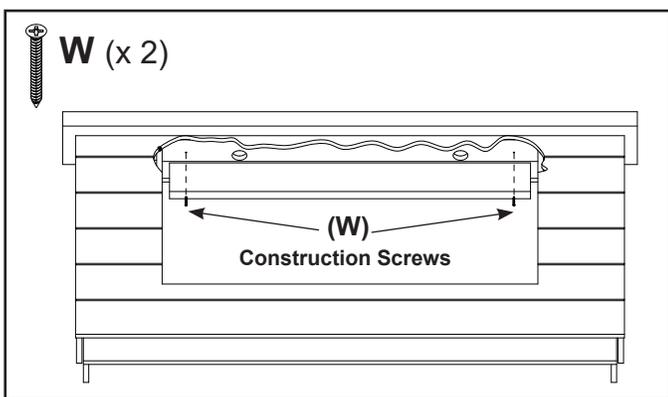

Figure 31
The mantel shelf may be secured with two (2) Construction screws (W) from the inside of the appliance cavity of the cabinet. There are two pilot holes located in the inner top (part "G"). See Figure 31.